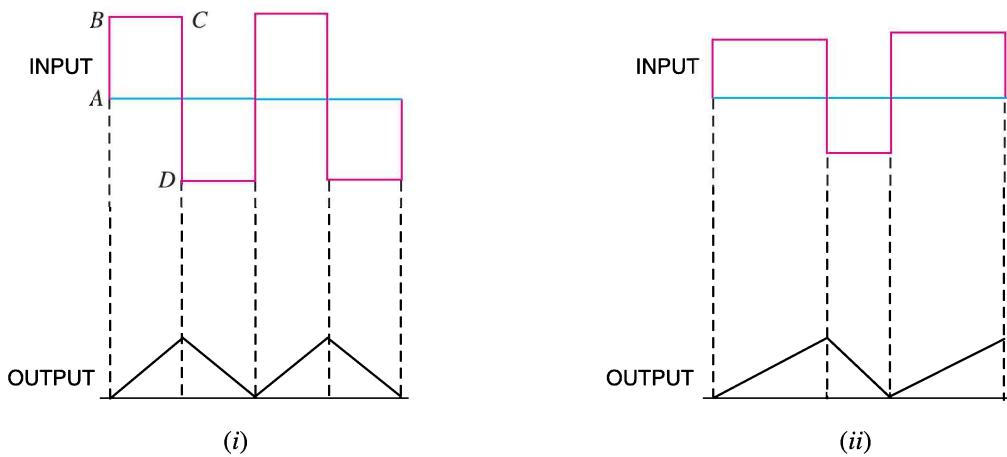

Fig. 18.24
- (i) **When input is a square wave.** When the input fed to an integrating circuit is a square wave, the output will be a triangular wave as shown in Fig. 18.24 (i). As integration means summation, therefore, output from an integrating circuit will be the sum of all the input waves at any instant. This sum is zero at A and goes on increasing till it becomes maximum at C . After this, the summation goes on decreasing to the onset of negative movement CD of the input.
(ii) **When input is rectangular wave.** When the input fed to an integrating circuit is a rectangular wave, the output will be a triangular wave as shown in Fig. 18.24 (ii).